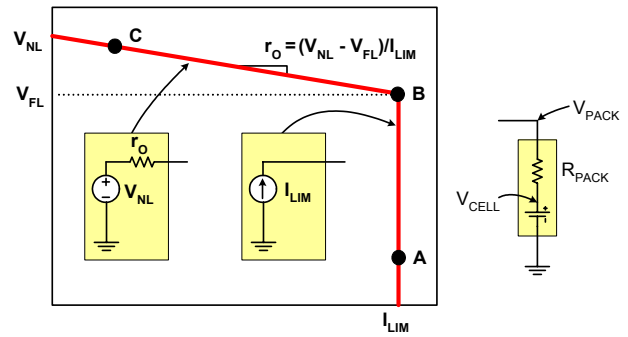
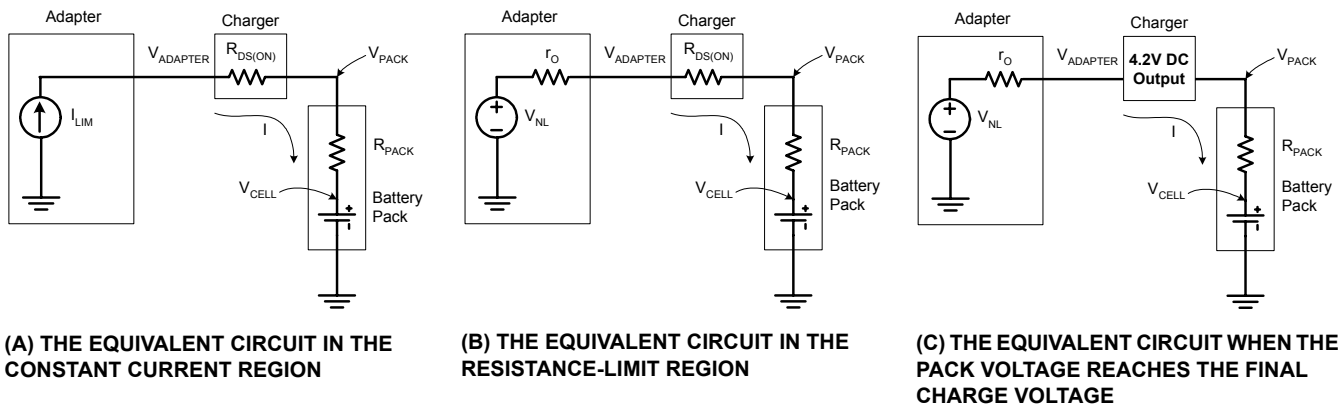
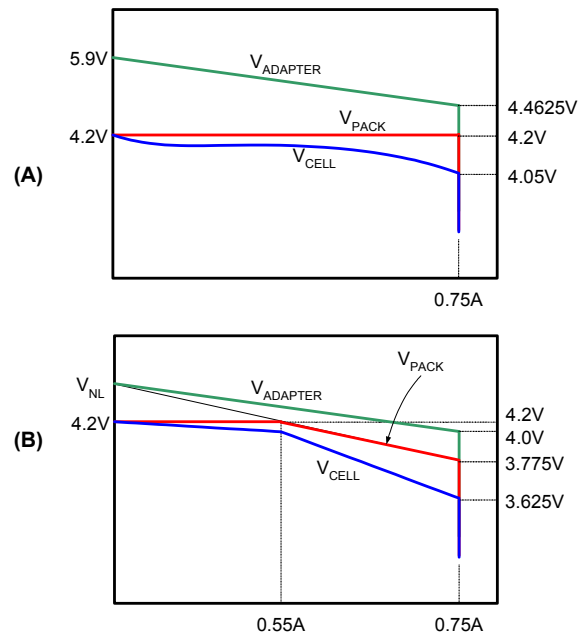
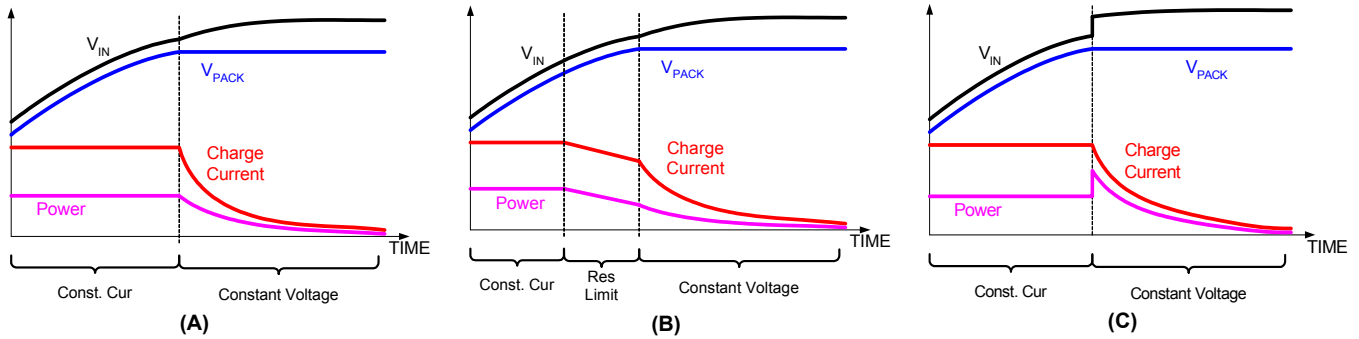

FIGURE 24. THE IDEAL I-V CHARACTERISTICS OF A CURRENT LIMITED ADAPTER
FIGURE 25. THE EQUIVALENT CIRCUIT OF THE CHARGING SYSTEM WORKING WITH CURRENT LIMITED ADAPTERS
FIGURE 26. THE I-V CHARACTERISTICS OF THE CHARGER WITH DIFFERENT CURRENT LIMITED ADAPTERS
FIGURE 27. THE OPERATING CURVES WITH THREE DIFFERENT CURRENT LIMITED ADAPTERS
Figure 24 shows the ideal current-voltage characteristics of a current-limited adapter. V_{NL} is the no-load adapter output voltage and V_{FL} is the full load voltage at the current limit I_{LIM} . Before its output current reaches the limit I_{LIM} , the adapter presents the characteristics of a voltage source. The slope r_O represents the output resistance of the voltage supply. For a well regulated supply, the output resistance can be very small, but some adapters naturally have a certain amount of output resistance.
current-voltage characteristics curve, such as point A, to higher voltage until reaching the breaking point B, as shown in Figure 24.
The adapter is equivalent to a voltage source with output resistance when running in the constant-voltage region; because of this characteristic. As the charge current drops, the adapter output moves from point B to point C, shown in Figure 24.
The battery pack can be approximated as an ideal cell with a lumped-sum resistance in series, also shown in Figure 24. The ISL6292 charger sits between the adapter and the battery.
As described earlier, the ISL6292 minimizes the thermal dissipation when running off a current-limited ac adapter, as shown in Figure 18. The thermal dissipation can be further reduced when the adapter is properly designed. The following demonstrates that the thermal dissipation can be minimized if the adapter output reaches the full-load output voltage (point B in Figure 24) before the battery pack voltage reaches the final charge voltage (4.1V or 4.2V). The assumptions for the following discussion are: the adapter current limit = 750mA, the battery pack equivalent resistance = 200mΩ, and the charger ON resistance is 350mΩ.
When charging in the constant-current region, the pass element in the charger is fully turned on. The charger is equivalent to the on-resistance of the internal P-channel MOSFET. The entire charging system is equivalent to the circuit shown in Figure 25 (A). The charge current is the constant current limit I_{LIM} , and the adapter output voltage can be easily found out as,
A critical condition of the adapter design is that the adapter output reaches point B in Figure 24 at the same time as the battery pack voltage reaches the final charge voltage (4.1V or 4.2V), that is:
When the above condition is true, the charger enters the constant-voltage mode simultaneously as the adapter exits the current-limit mode. The equivalent charging system is shown in Figure 25 (C). Since the charge current drops at a higher rate in the constant-voltage mode than the increase rate of the adapter voltage, the power dissipation decreases as the charge current decreases. Therefore, the worst case thermal dissipation occurs in the constant-current charge mode. Figure 26 (A) shows the I-V curves of the adapter output, the battery pack voltage and the cell voltage during the charge. The 5.9V no-load voltage is just an example value higher than the full-load voltage. The cell voltage 4.05V uses the assumption that the pack resistance is 200m Ω . Figure 27 (A) illustrates the adapter voltage, battery pack voltage, the charge current and the power dissipation in the charger respectively in the time domain.
If the battery pack voltage reaches 4.2V (or 4.1V) before the adapter reaches point B in Figure 24, a voltage step is expected at the adapter output when the pack voltage reaches the final charge voltage. As a result, the charger power dissipation is also expected to have a step rise. This case is shown in Figure 18 as well as Figure 27 (C). Under this condition, the worst case thermal dissipation in the charger happens when the charger enters the constant voltage mode.
is shown in Figure 25(B). Eventually, the battery pack voltage will reach 4.2V (or 4.1V) because the adapter no-load voltage is higher than 4.2V (or 4.1V), then Figure 25(C) becomes the equivalent circuit until charging ends. In this case, the worst-case thermal dissipation also occurs in the constant-current charge mode. Figure 26 (B) shows the I-V curves of the adapter output, the battery pack voltage and the cell voltage for the case $V_{FL} = 4V$. In the case, the full-load voltage is lower than the final charge voltage (4.2V), but the charger is still able to fully charge the battery as long as the no-load voltage is above 4.2V. Figure 27 (B) illustrates the adapter voltage, battery pack voltage, the charge current and the power dissipation in the charger respectively in the time domain.
Figure 29 shows the actual captured waveforms depicted in Figure 27 (C). The constant charge current is 750mA. A step in the adapter voltage during the transition from CC mode to CV mode is demonstrated.